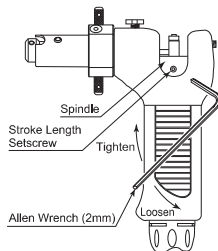

Fig. 6
- ③ Loosen the stroke length setscrew with the allen wrench (2mm) (Fig.6).
- ⑤ Tighten the stroke length setscrew with the allen wrench (2mm), (Fig. 6)